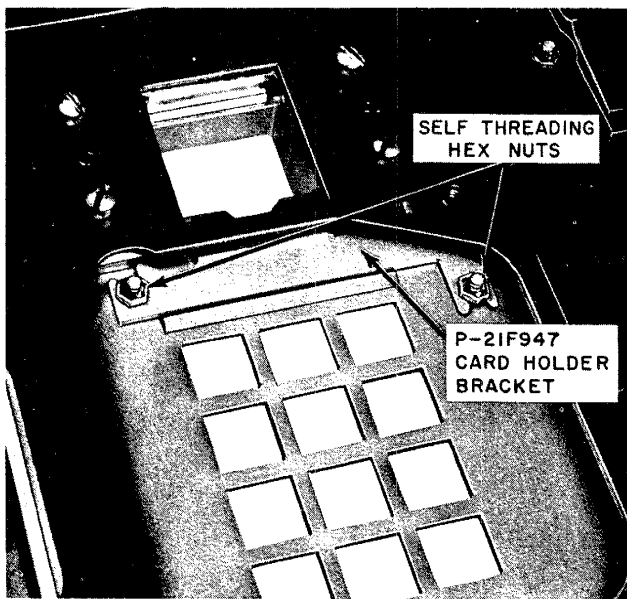

Fig. 16—Card Holder Bracket Installed (1A2)
- (d) Secure window and number card using the P-21F947 card holder bracket and two hex nuts (Fig. 16).